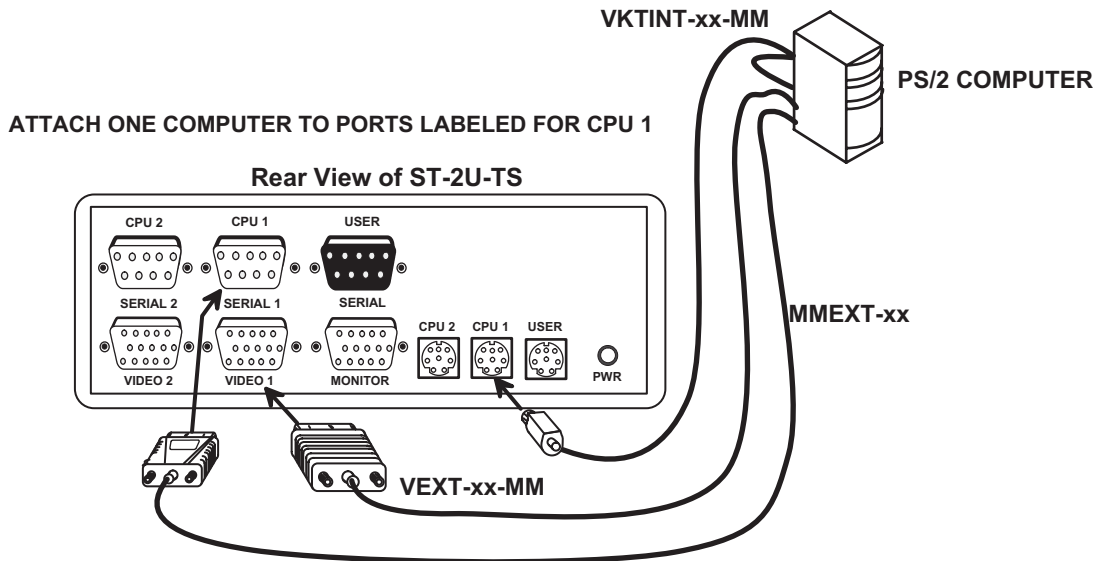

Figure 13- Connect serial device cable from CPU to ST-2U-TS
2. If the CPU is using a touch-screen type monitor, connect the serial cable (MMEXT-xx) from the serial port of the CPU to the serial port of the ST-2U-TS switch (CPUx-SERIALx) with the same port number as the keyboard and video cables (See Fig. 13.)